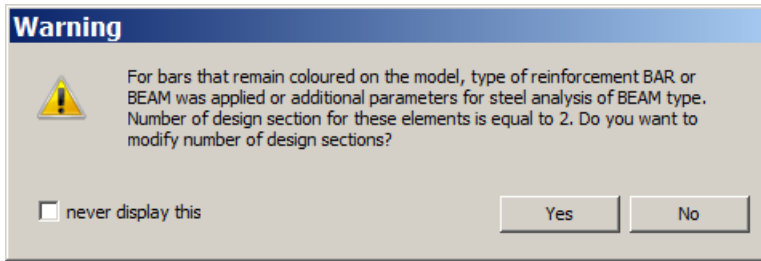

Figure 19.15 Warning box
- ⇒ In the **Warning** box (see Fig.19.15), click **OK**. (This warning is displayed because type of reinforcement 'Beam' was applied to selected bars. Number of design sections in these bars is equal to 2, but for design of flexural element, forces should be computed in three or more sections.)